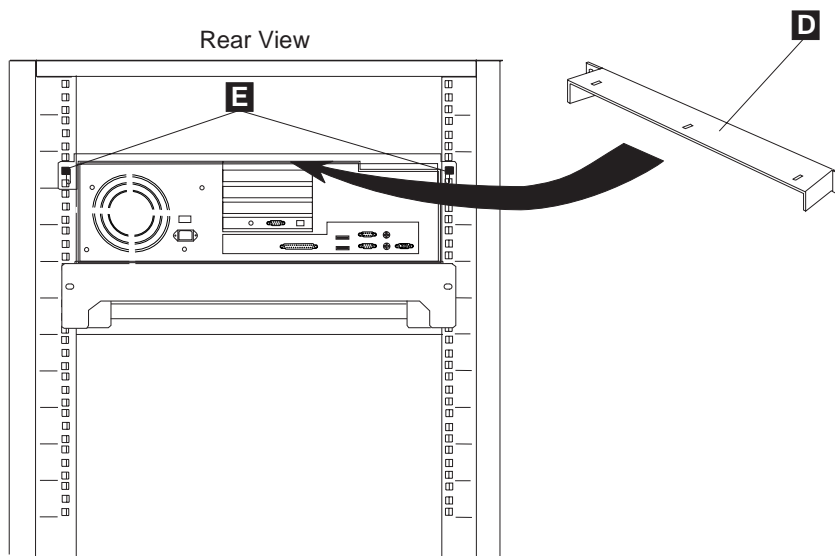

Figure 1-25. Support Installation at the Rear of a 29 U Rack
3. ____ On the rear of the rack install the support **D** using the screws (PN 43G3084) **E** (refer to Figure 1-25 on page 1-20).